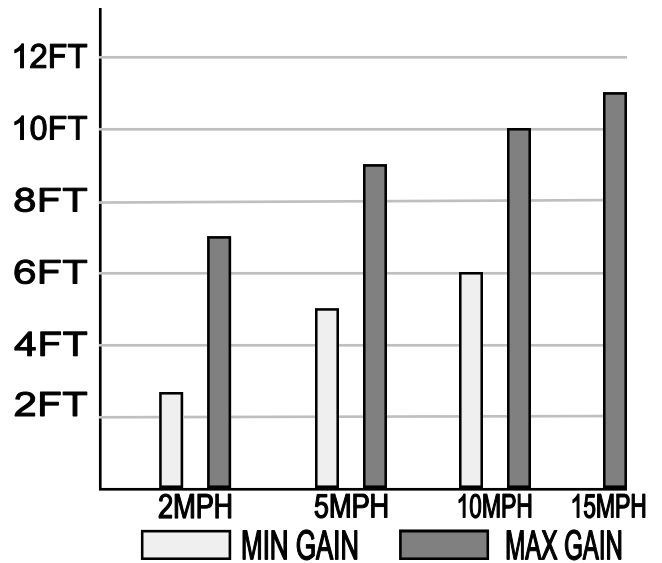

Figure 4 - Approximate Detection Radius
3. Remember that the mass and speed of vehicles results in a relatively large diameter detection area (See Figure 4). The sensor probe should not be installed closer than about 30 feet from a busy residential road, about 40 feet from truck traffic, and about 100 feet from railroad tracks.
1. Determine the optimum placement by laying the probe on the ground, turning the Signal Processor sensitivity ("SENS") all the way down, and driving past the probe at the probable vehicle speed and line of travel (See Figure 4). Gradually increase the sensitivity and/or adjust the probe location for desired results. Keep the sensitivity as low as possible to avoid nuisance tripping. Bury the probe about 6 inches (15cm) deep, parallel to the line of travel of the vehicle.
2. Place the probe on the ground in the desired location. Figure 4 shows the approximate detection radius for a single probe.